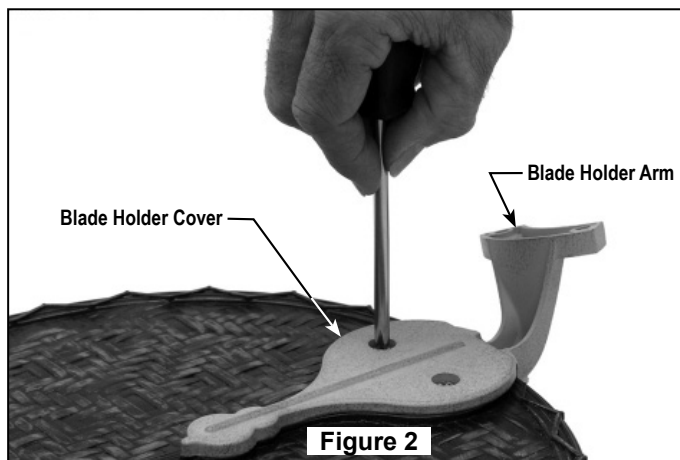

Figure 2
5. With a Phillips head screwdriver provided, thread both screws into the posts but do not fully tighten.. (Figure 2)
7. Tighten both screws to secure the blade. (Figure 2)